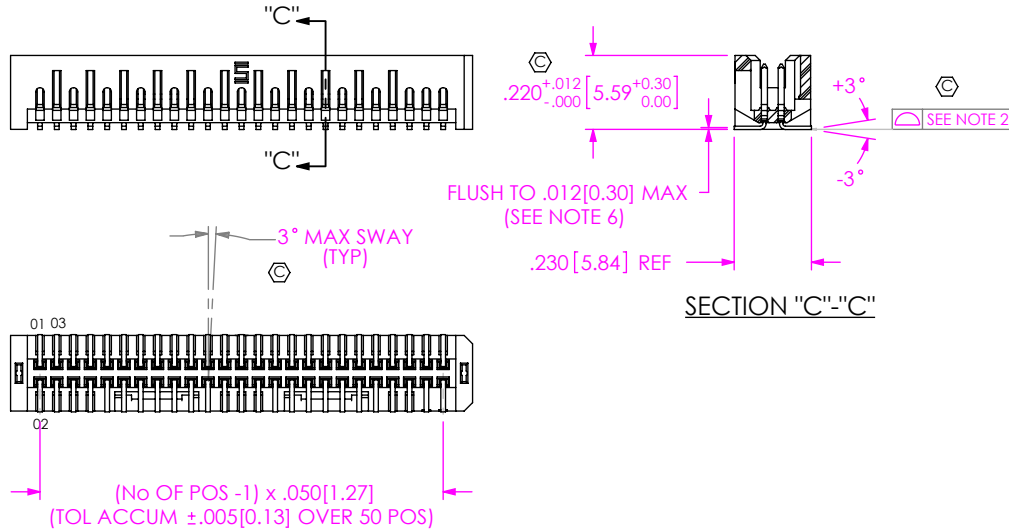

FIG 5
-P: PICK & PLACE PAD (USE PPP-72 FOR -05 & -07. USE PPP-04 FOR -10 THRU -50) (AVAIL IN ALL POSITIONS, N/A ON -RA OPTION, SEE FIG 5, SHT 2)